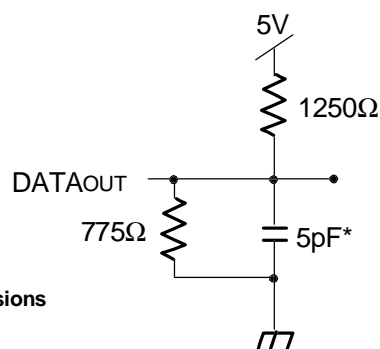

Figure 2. Output Test Load
1. Transition is measured  $\pm 500\text{mV}$  from Low or High-impedance voltage Output Test Load (Figure 2).
1. Transition is measured  $\pm 500\text{mV}$  from Low or High-impedance voltage with Output Test Load (Figure 2). This parameter is guaranteed by device characterization but is not production tested.